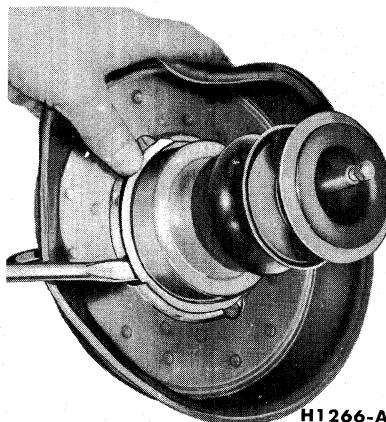

FIG. 25—Bellows Removal or Installation
9. Remove the large bellows retainer ring and the bellows assembly from the diaphragm and valve assembly (Fig. 25).
13. Position the bellows assembly over the push rod against the front side of the diaphragm. Secure the bellows to the diaphragm by installing the retainer ring (Fig. 25). Make sure that the retainer ring is fully seated.